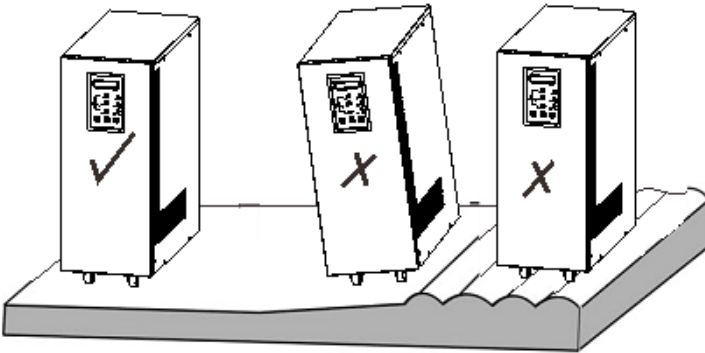

Figure 4
1. Do not place the UPS on a slope or uneven surface. (Figure 4)